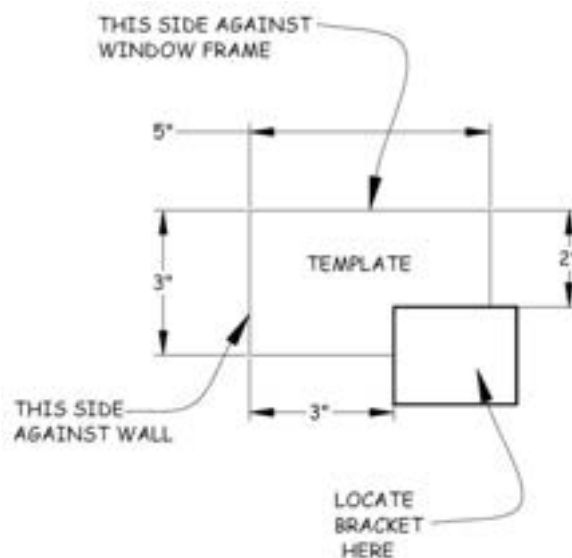

Figure 19-10. Miniblind Installation Guide.
1. Check with the Construction Supervisor for the Mini-Blind template. If one is not available, make one from a piece of 3"x5" cardboard as shown in Figure 19-10.
2. Hold the template against the top of the window frame (against the header) and install the blind mounting brackets on each side of the window (see Figure 19-10). For cordless mini blinds, adjust the mounting brackets left or right to avoid interfering with the mini blind's raise/lower mechanism